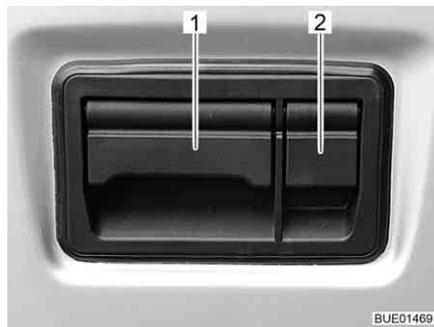

Fig. 32 Flap lock rear flap, outside
- Open the protective flap (Fig. 32,2).
- Pull the flap (Fig. 32,1) upwards and open the rear flap.